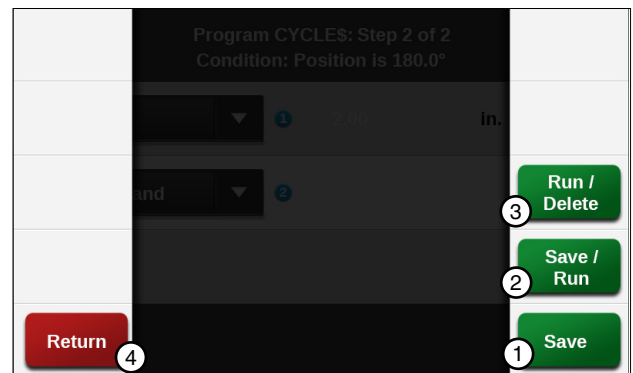

Figure 139-4 1. Save 3. Run/Delete
9. Finish the program by selecting one of the following. Refer to Figure 139-4.